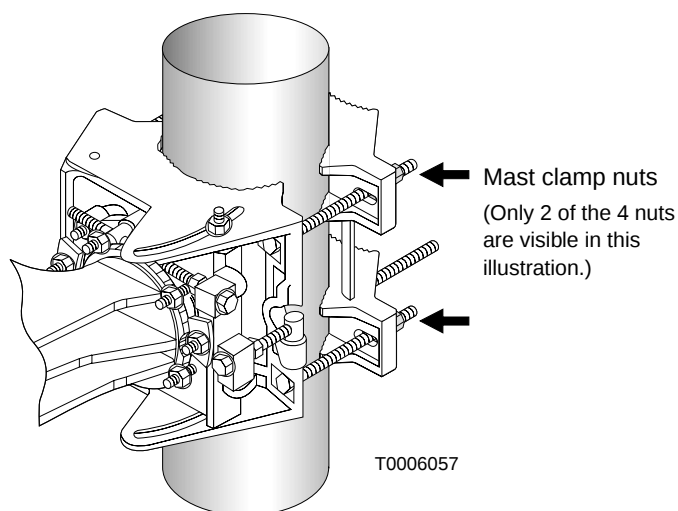

Figure 4-14 Mast clamp nuts
2. When the azimuth is properly adjusted, use a torque wrench with a deep socket to tighten the four mast clamp nuts to 16 foot-pounds torque (21.7 Newton-meters). See figure 4-14. Tighten each bolt a little at a time, moving from bolt to bolt in an X pattern.